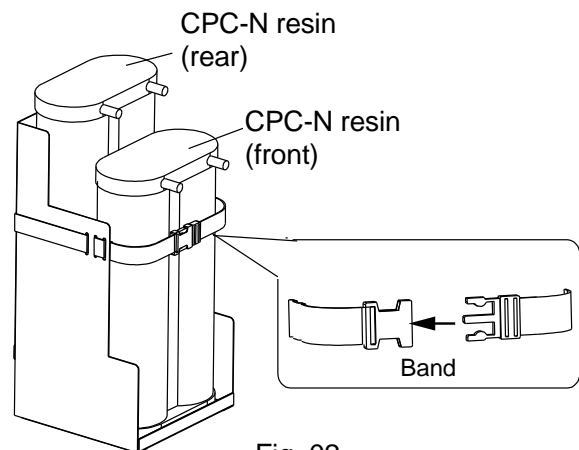

Fig. 02
- (4) Secure the ion exchange resin cartridge with a band to the resin installation plate. (See Fig. 02)